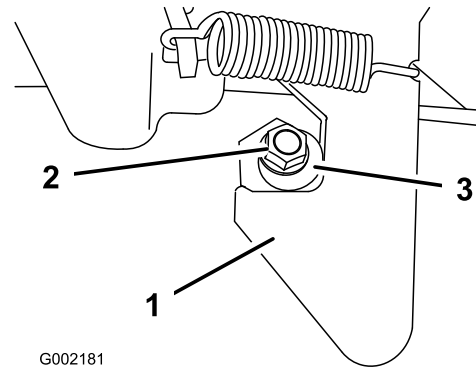

Figure 58
- Loosen the locknut on the end of the latch post (Figure 58).
- Rotate the latch post clockwise until it is snug against the hook portion of the latch (Figure 58).